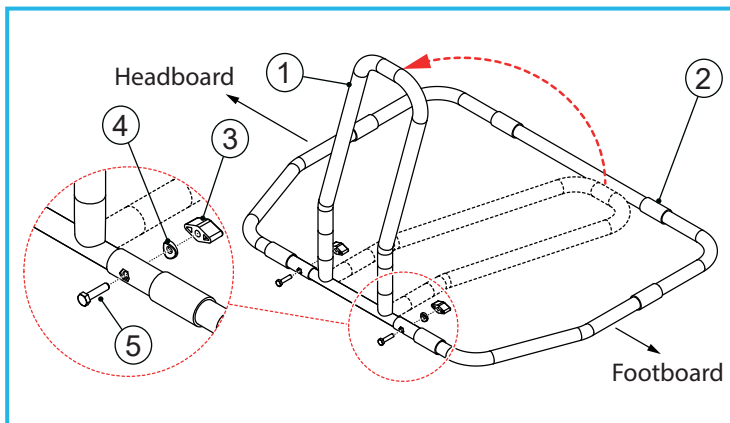

Figure 2: RHS Assembly
1. Refer to Figure 2. Position the bed rail base (2) as shown.
2. Rotate the bed rail handle (1) 90 degrees.
3. Insert the bolts (5) into the holes, making sure they locate fully into the hexagonal recess.
4. Replace the two saddle-washers (4) and secure with the two plastic wing-nuts (3).
5. Make sure the bed rail handle (1) is fully secure before installing to the bed.